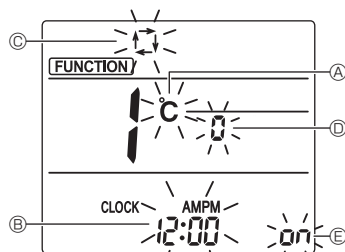

Fig. 5-11
- Check that function No. "1" is displayed, and then press the **SET** button ③.
- The Screen display setting screen will be displayed. (Fig. 5-11)
- Press the **UP/DOWN** button ④ to change the function No.
5.10.2. Changing the temperature unit (Fig. 5-11 Ⓐ)
- Press the **TEMP** button ⑤.
- Each time the **TEMP** button ⑤ is pressed, the setting switches between °C and °F.
5.10.3. Changing the time display (Fig. 5-11 Ⓑ)
- Press the **TIME** button ⑥.
- Each time the **TIME** button ⑥ is pressed, the setting switches between 12:00^{AMP/PM} and 24:00.
5.10.4. Changing the AUTO mode (Fig. 5-11 Ⓒ)
- Press the **MODE** button ⑦.
- Each time the **MODE** button ⑦ is pressed, the setting switches between **1** and **2**.
5.10.5. Changing the pair No. (Fig. 5-11 Ⓓ)
- Press the **UP/DOWN** button ④.
- Each time the **UP/DOWN** button ④ is pressed, the pair No. 0-3 changes.